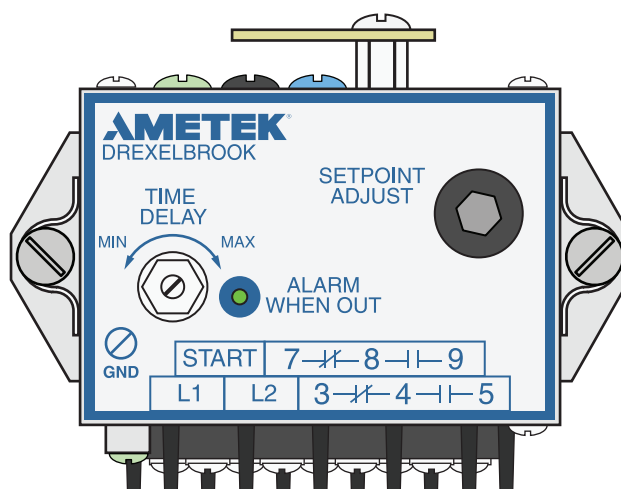

Figure 7-1
1. Remove the "preset" label on the top of the electronic unit for access to the setpoint adjustment assembly (this is the hex nut visible inside the chassis after the label has been removed). See Figure 7-1.